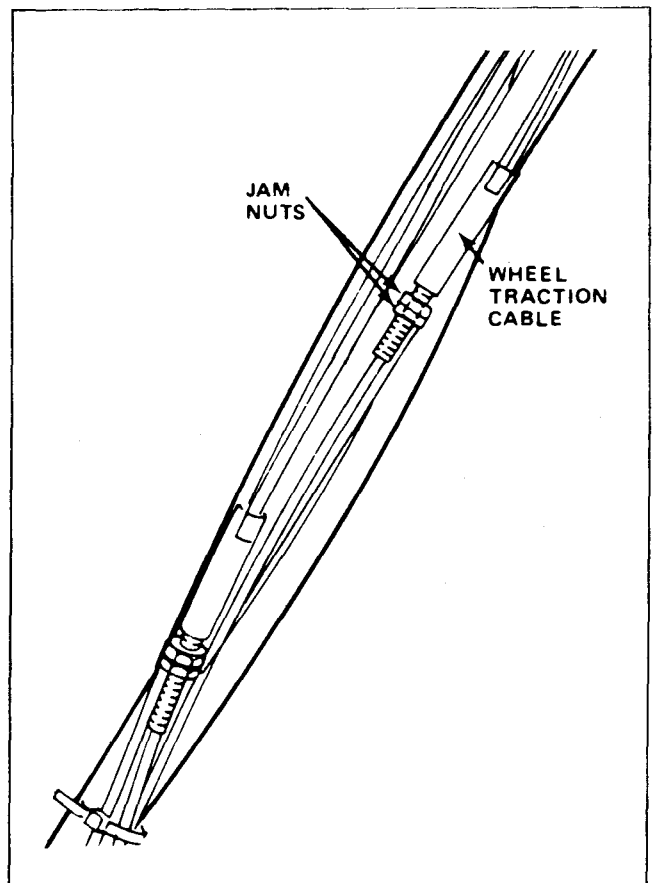

Figure 30
2. Loosen bottom jam nut on the wheel traction cable as shown in Figure 30.